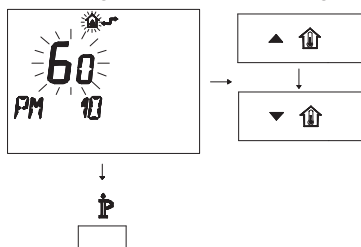

Fig. 8.29
- To modify the programmed SET, act on buttons **▲** and **⬆** or **▼** and **⬆** and wait for the number programmed to flash (Fig. 8.29).